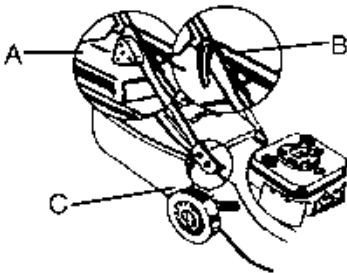

Figure 2 - Handle Bar Adjustment
1.2 Folding Handles (Refer Fig. 2)
1.3 Handle Bar Height Adjustment (Refer Fig 2)